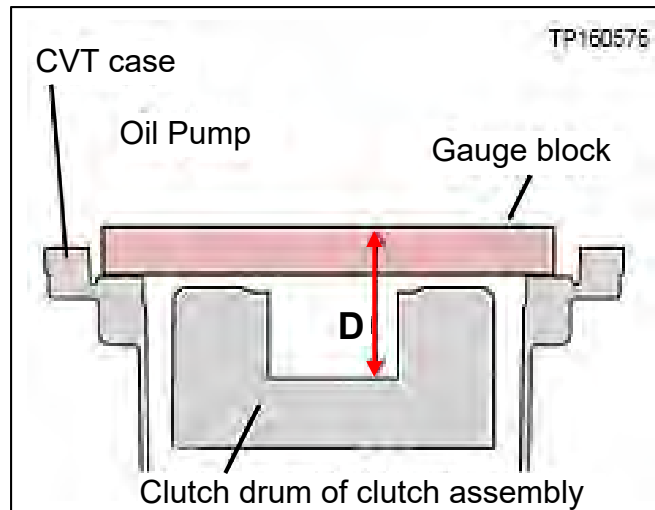

Figure 122
95. Calculate the average (D) clutch assembly bore depth (Figure 122) as follows: